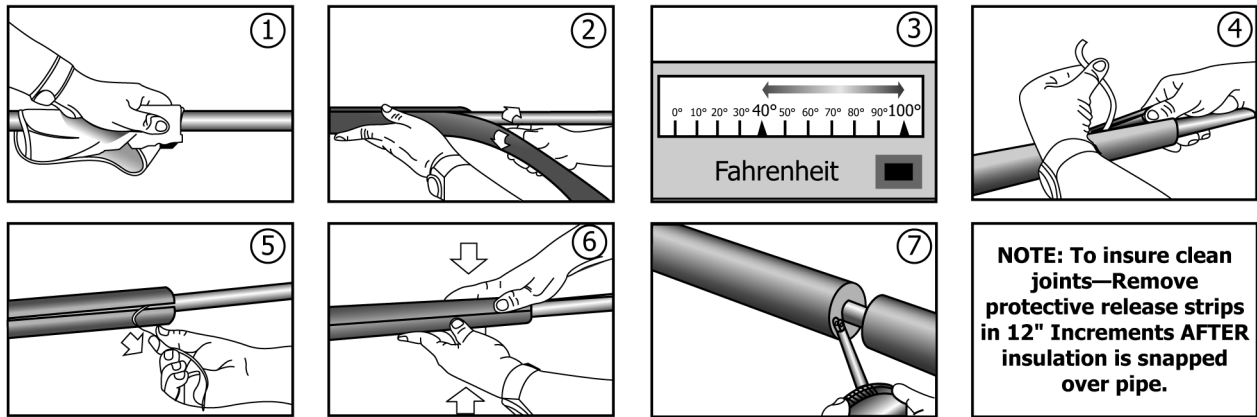

FIG. 4 Apply Pre-Slit/Pre-Glued Insulation to Straight Pipe
10.1.2 Use pre-slit/pre-glued insulation. (Insulation pre-slit with factory applied pressure sensitive adhesive (PSA)). See Fig. 4. Be sure application temperature and manufacturer’s installation temperature recommendations are adhered to.